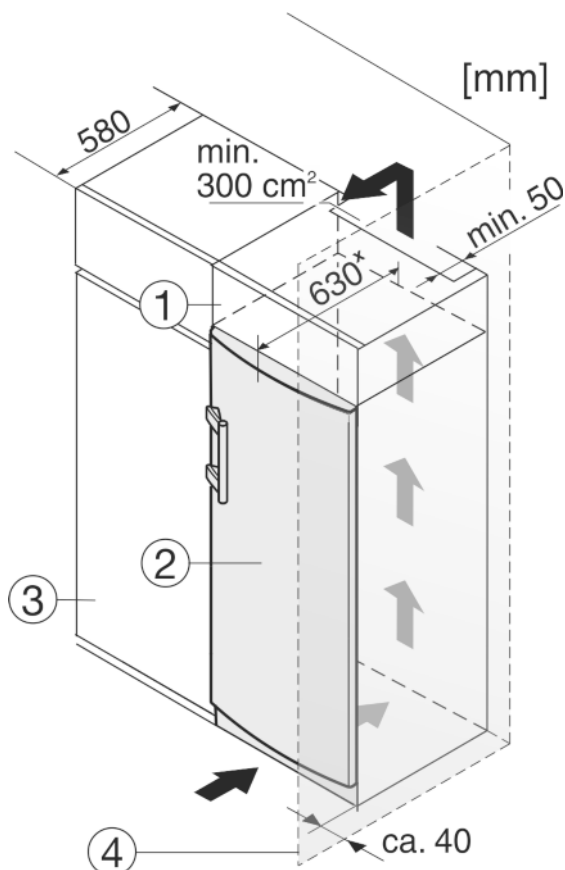

Fig. 12
- (1) Stack cabinet
- (2) Appliance
- (3) Kitchen cabinet
- (4) Wall
The appliance can be built into kitchen units. A top cupboard *Fig. 12 (2)* can be added above the appliance in order to bring the appliance *Fig. 12 (1)* up to the height of the fitted kitchen units.
When installing with kitchen units (max. depth 580 mm), the appliance can be positioned directly next to the kitchen cabinet *Fig. 12 (3)*. The appliance will project by 34 mm * at the sides and 50 mm * in the centre of the appliance in relation to the kitchen cabinet front.
If the appliance is installed with the hinges next to a wall *Fig. 12 (4)*, the distance between appliance and wall has to be at least 40 mm. This corresponds to the projection of the handle when the door is open.